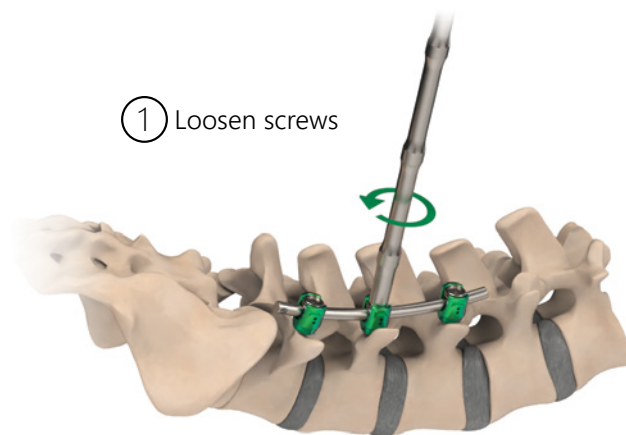

Figure 14.1
1. Remove the Set Screw and Rod by loosening and removing all the Set Screws using the Final Open Driver (Figure 14.1). The Counter Torque wrench can be used to reduce load on the construct.